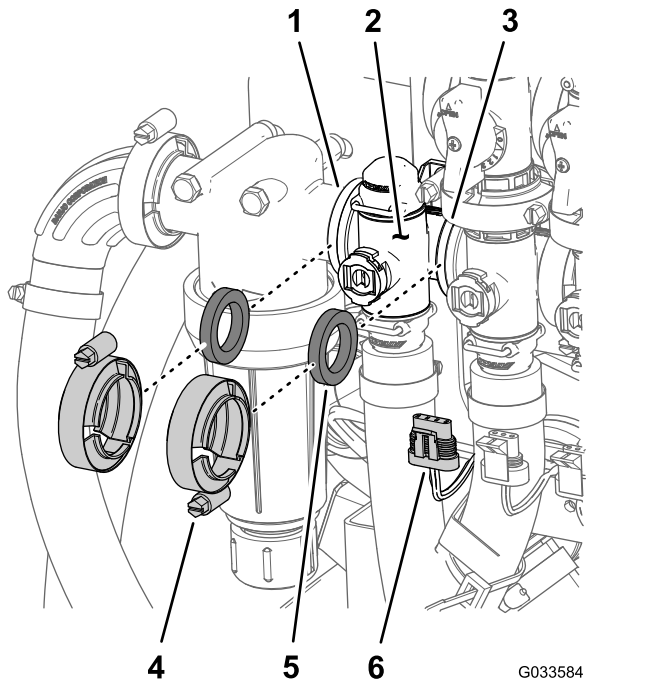

Figure 113
1. Remove 2 flange clamps and 2 gaskets that secure the manifold for the rate control valve (Figure 113) to the pressure filter and agitation valve.